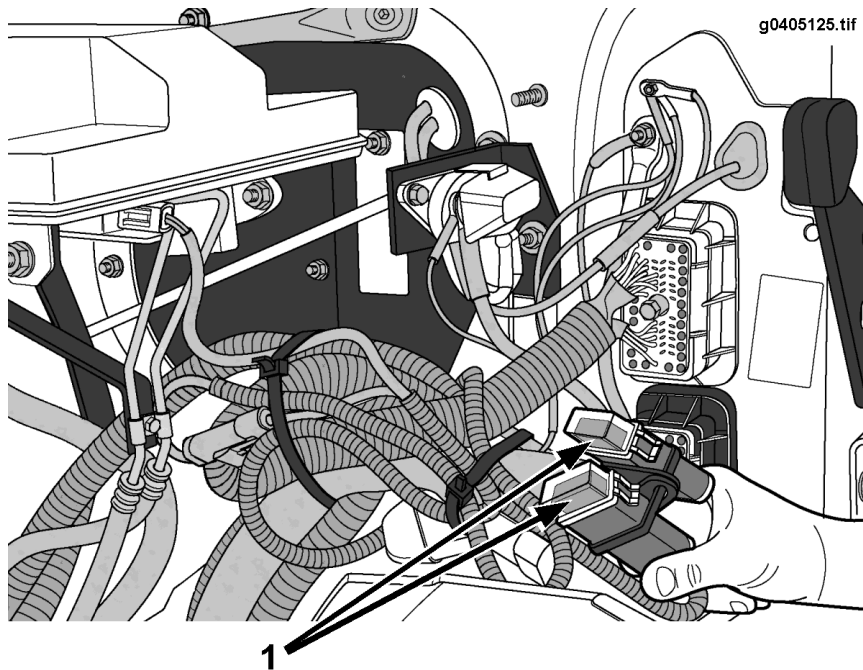

Figure 32 Location of Motor Fuses
2. Set the ignition key to OFF and remove the two 30 Amp fuses that provide power to the brake system motors. The fuses are bundled in the cowl wire harness located near the master cylinder (refer to FIGURE 32).